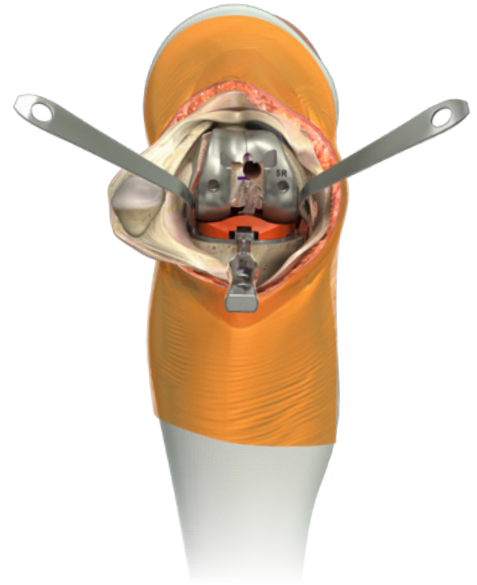

Figure 46
3. Place the appropriate size Insert Trial onto the Tibial Implant and extend the leg to pressurize the cement. Remove any additional excess cement (Figure 46).